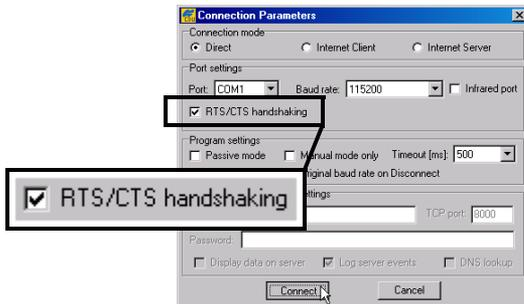

Figure 3-9. Connection Parameters – MINTER Settings
2. On the **Connection Parameters** dialog box, enable RTS/CTS handshaking (Figure 3-9).